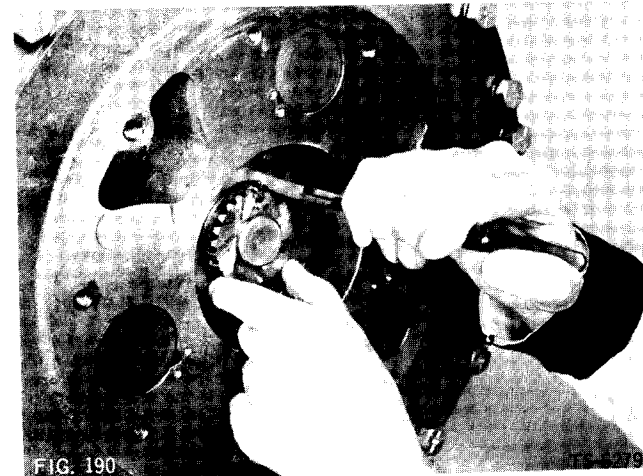

FIG. 190
36. Position sun gear on axle shaft; secure with sun gear retaining ring (Fig. 190).